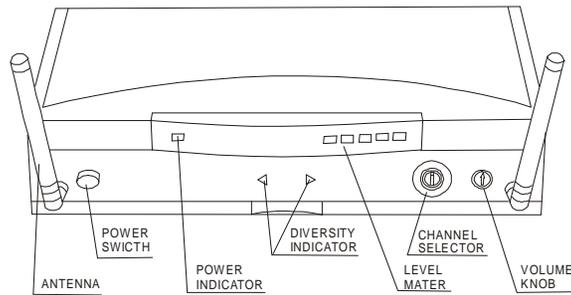

Fig.21 Receiver 8010
4.1.1 Receiver 8010 was shown in Fig.21. Take out the receiver from packing box and place the receiver near the performance area (stage). Point the antennas upward and slightly outward to form a “V”. Make sure, that the transmitter (microphone) will never get any closer to the receiver than 10 ft (3m), optimum separation is 16 ft (5m). There should always be a direct line of sight between the microphone and receiver. Place the receiver least 5 ft (1.5m) away from any big metal objects, walls, scaffolding, ceilings, etc.